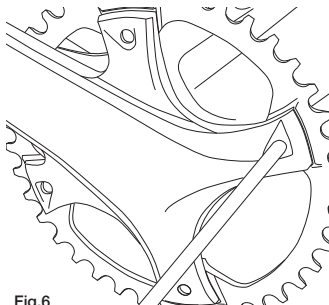

Fig.6
- The screws can also be reached from the outer side of the bicycle, but be careful not to damage the surface of the crankset and make sure that the spanner direction of rotation is therefore opposite to the normal direction (Fig. 6).